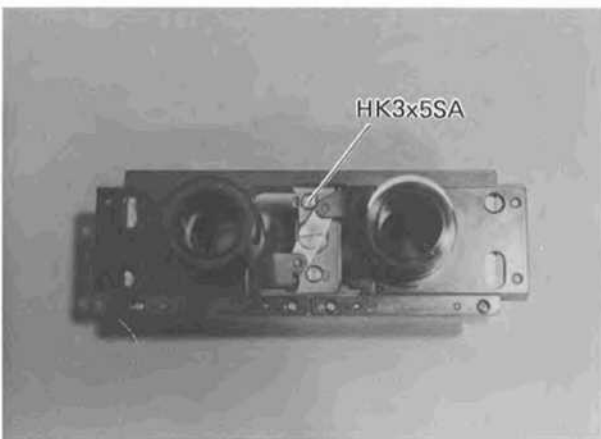

Fig. 10-9
- a) Prism Mount and Prisms P3, P4 ZJ538700 can be disassembled by removing two Screws HK3x5SA. (See Fig. 10-9)